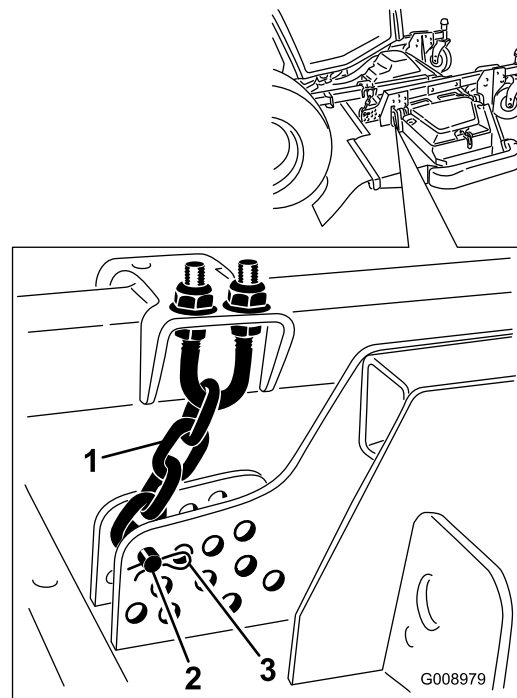

Figure 88
3. Remove the hairpin cotter and clevis pin securing the height-of-cut chains to the rear of the cutting unit (Figure 88).